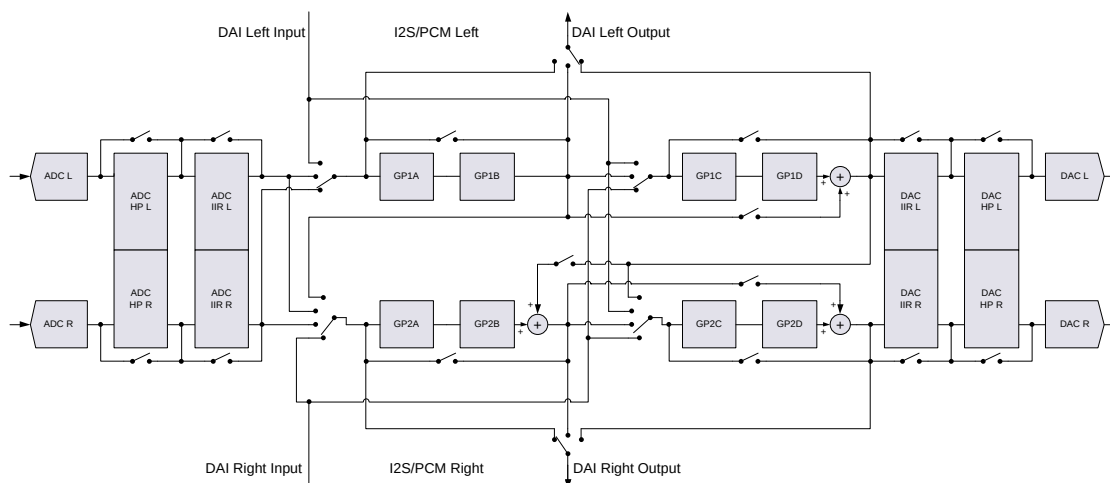

Figure 16: Digital signal processing engine (simplified block diagram)
A digital high pass filter for each DAC channel is implemented (configurable by control DAC_HPF_F0 (address 0x14, Table 61) that can be enabled via control DAC_HPF_EN (address 0x14, Table 61, see blocks 'DAC HP' in Figure 16). After Reset, the high pass filters for both channels are enabled by default.
The digital signal processing engine includes a configurable audio processor that offers flexible routing and extensive audio enhancement and effects. Linear phase FIR filters perform the interpolation and decimation for the required sigma-delta sample rates. Configurable high-pass filtering (optionally enabled) removes any signal DC offset (see blocks 'ADC HP' and 'DAC HP' in Figure 16) and offers 5-band equalisation during recording and sound playback.
Alternatively it can provide dedicated voice band filtering at samples rates ≤ 16 kHz (see blocks 'ADC IIR' and 'DAC IIR' in Figure 16).
An additional general purpose (GP) filter engine offers up to eight second-order biquad filter stages with configurable 16-bit coefficients, and supports flexible digital audio routing and mixing arrangements. Figure 16 shows some possible routings (a subset of the available settings) for filter blocks GP1A to GP2D with the related control registers. Typical use cases with example configurations are explained in the section 8.3.
To allow user-specific sound control, the recording path includes a programmable 5-band equaliser (combined in the ADC IIR blocks in Figure 16). This is enabled using control ADC_EQ_EN (address 0x13, Table 60).